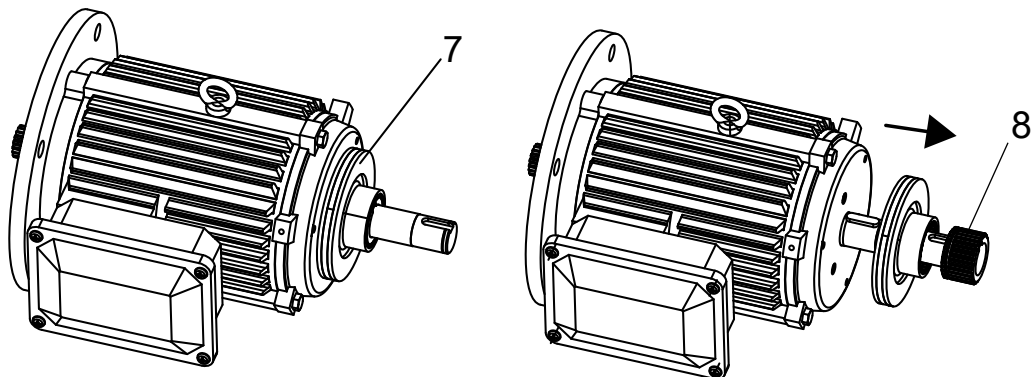

Fig. 6-20c
- See Fig. 6-20c, Remove the Retainer ring ⑦, pull out of the brake disk and the splined sleeve ⑧